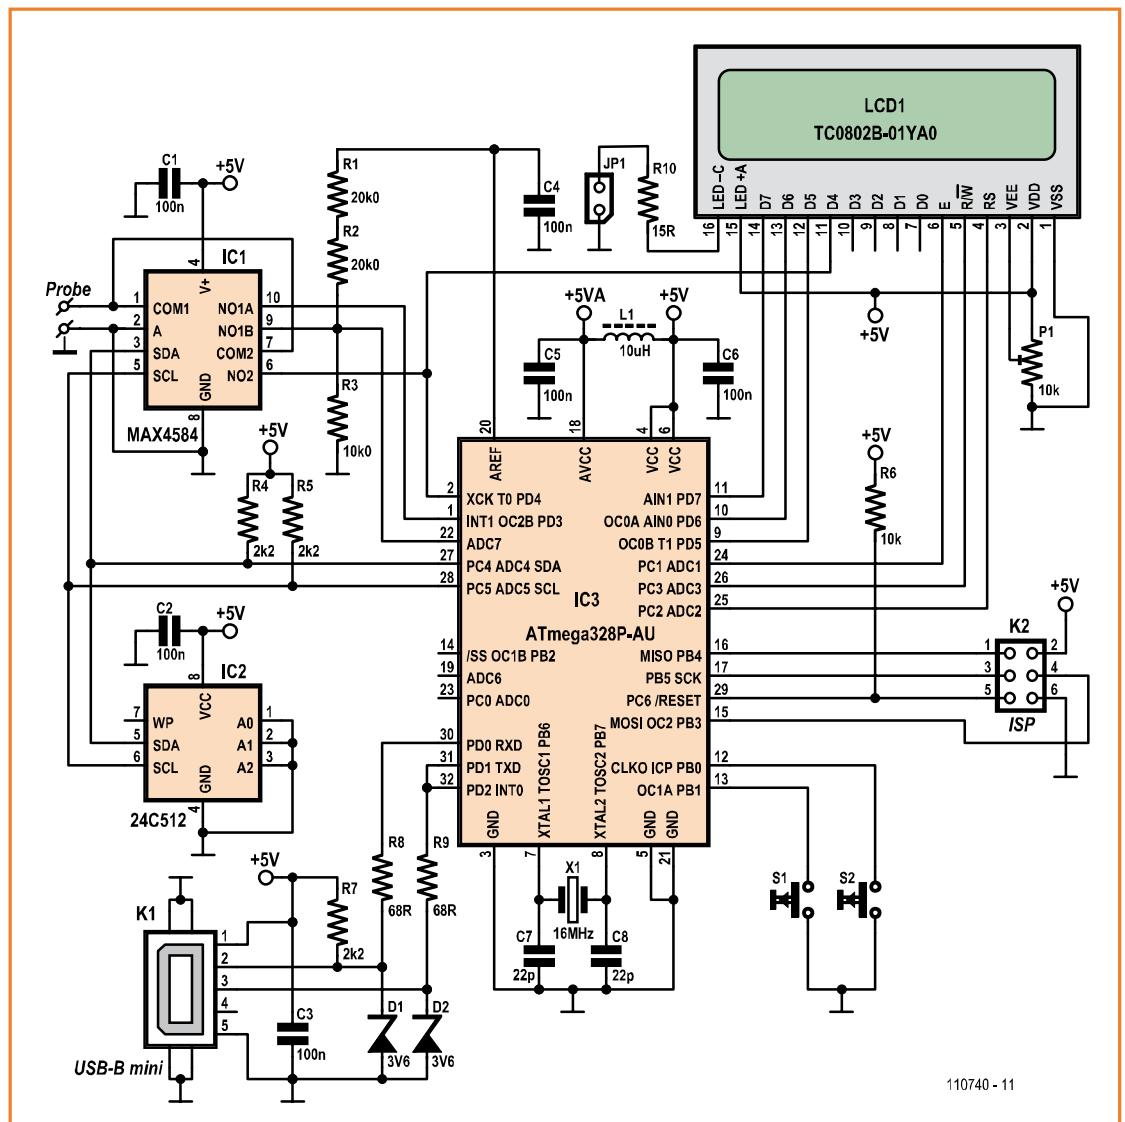

Figure 3.
**Figure 3** shows the current state of the circuit design, incorporating several of Thomas Ücok's clever ideas. The circuit is based around and ATmega328P, wired in the conventional fashion. It is clocked by a 16 MHz crystal and is powered at 5 V. An ISP connector allows the microcontroller to be programmed. The LCD module is driven in four-bit mode, and P1 allows its contrast to be adjusted. JP1 gives the option of activating the display's backlight.